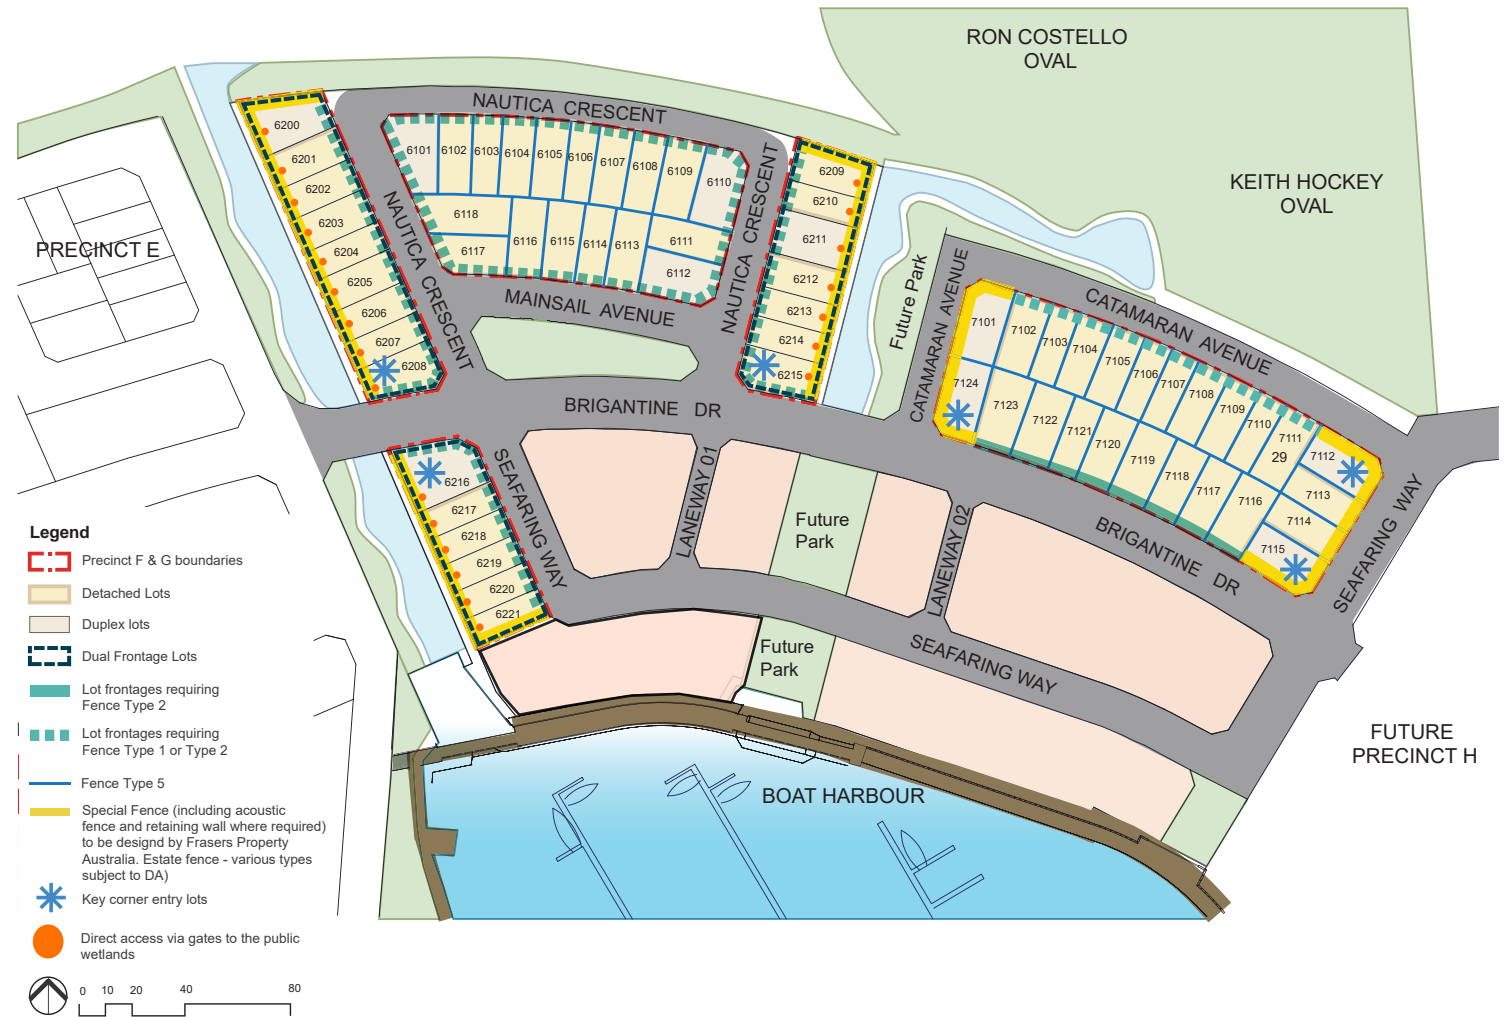

FIGURE 26: Fencing for housing lots
All fencing is to be consistent with Figure 26.
Fence types as prescribed in Figure 26 and further described in the following sections are mandatory in Shell Cove.
- Front fences can provide for a unified streetscape and a special character for individual lot frontages. At The Waterfront Shell Cove, front fencing requirements vary depending on the lot address (refer to Figure 26):